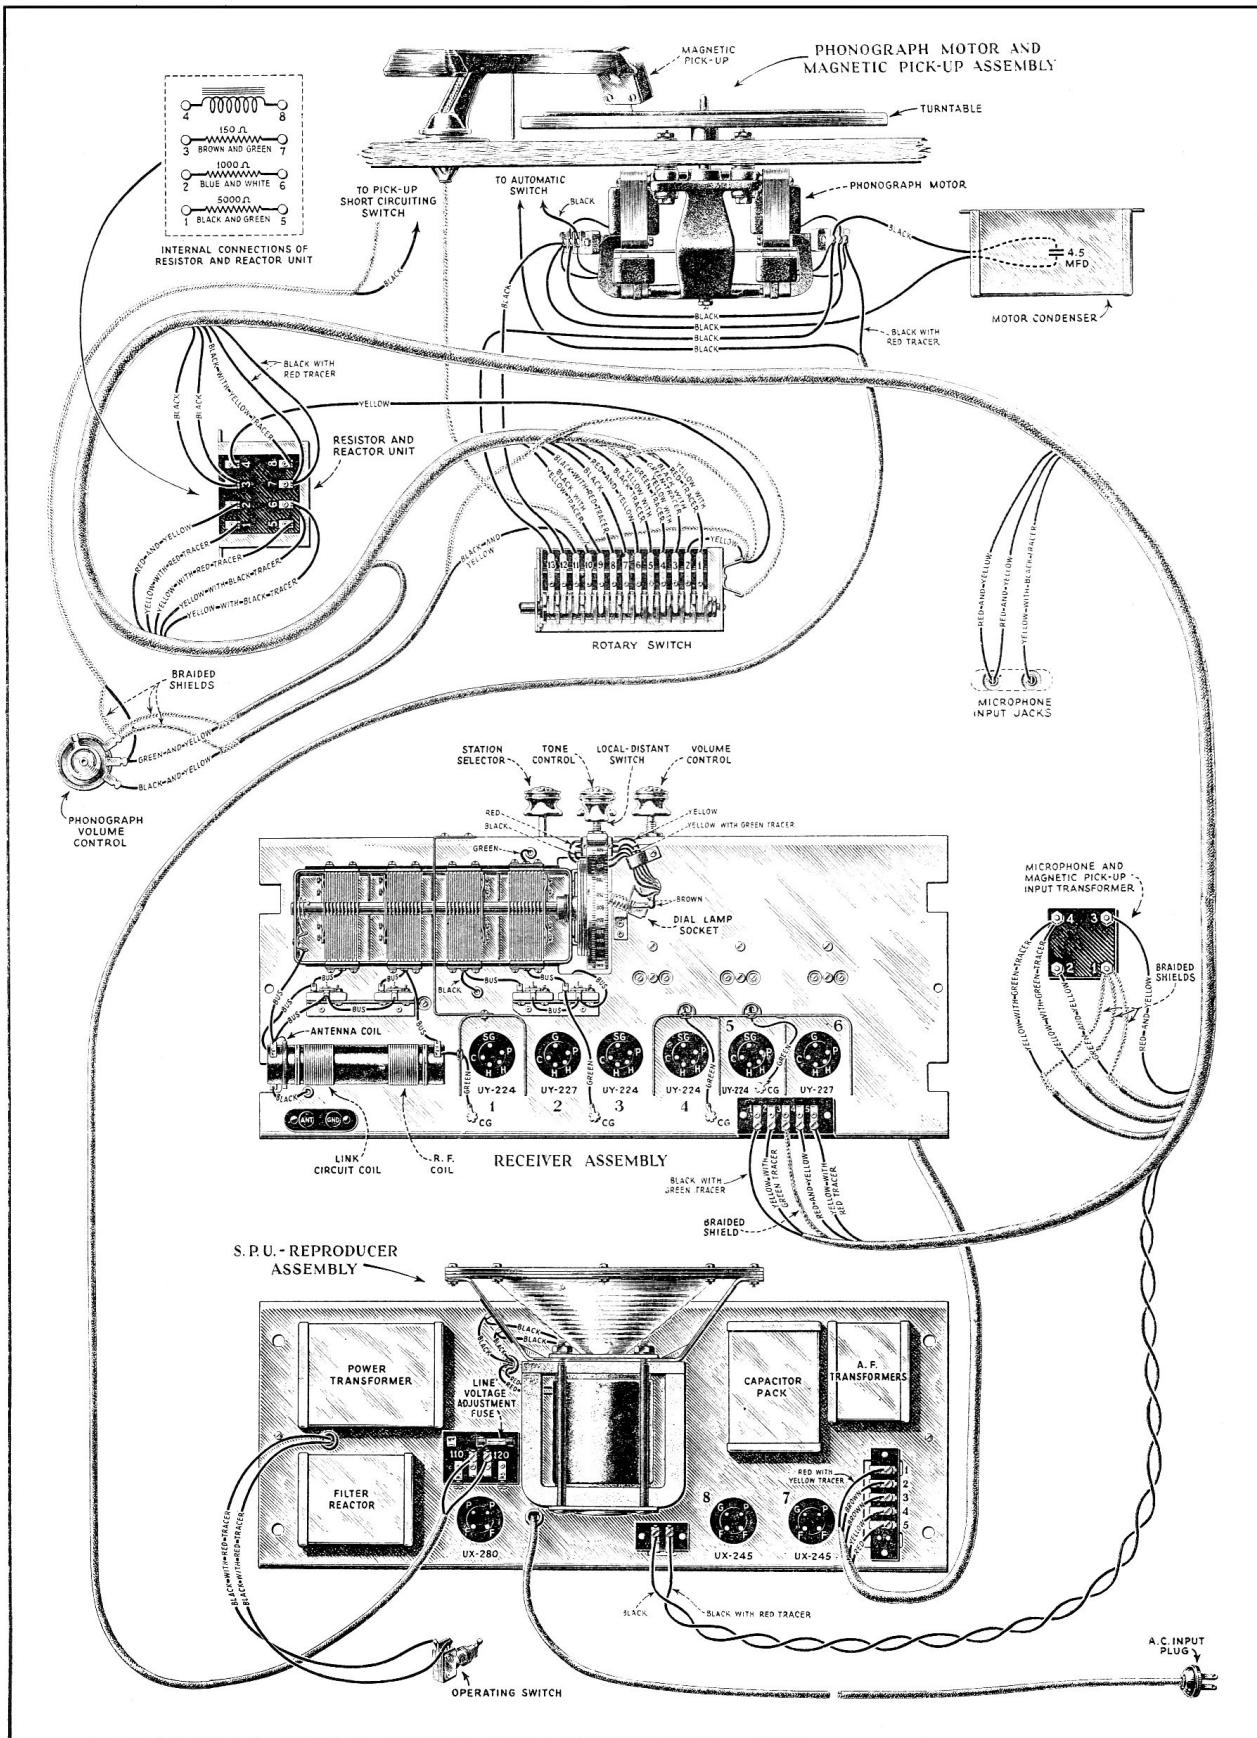

Figure 10—Assembly wiring diagram of the radio-phonograph combination instrument
Due to the absence of a motor terminal board it is best to disconnect the motor and test for continuity of circuit directly at the motor coils. This may be done by any of the methods used for regular continuity tests. Associated circuits should be checked by referring to the diagram, Figure 10.
- (e) Replace the black power leads under the lugs and reconnect the power leads to the proper points on the terminal board as shown in Figure 10. Lubricate motor if necessary.
- (k) Reconnect, following the wiring diagram, Figure 10, and test operation and speed (Refer to Part VI, Section 2).